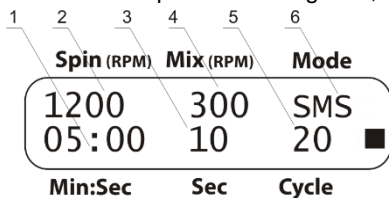

Figure 3. SMS-algorithm
5.8.4 **Mode** (fig. 3/1) parameter can be one of the following:
5.9.1 Select the SMS-algorithm (indication **S.M.S.** of **Mode** parameter, fig. 3/6).
5.9.2 Set the required centrifugation speed, from 300 to 1500 rpm (increment 100 rpm, fig. 3/2).
5.9.3 Set the required centrifugation time, from 1 s to 30 min (increment 1 s, after 1 min - 1 min, fig. 3/1).
5.9.4 Set the required vortexing speed, from 300 to 1200 rpm (increment 100 rpm, fig. 3/4).
5.9.5 Set the required vortexing time, from 1 to 60 s (increment 1 s, fig. 3/3).
5.9.6 Set the required SMS-algorithm cycle count, from 1 to 999 (fig. 3/5).